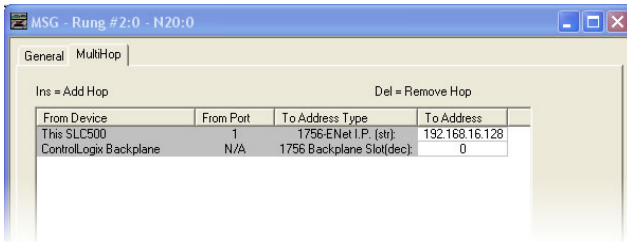

Figure 116: MSG Configuration, "MultiHop" Tab
- e) Under the “MultiHop” tab settings, set the “To Address” in the first row to the inverter’s IP address, and the “To Address” in the second row to 0. Refer to Figure 116.